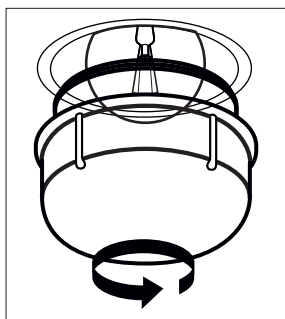

Figure 21
2. Remove the glass protection by turning it counterclockwise. (see figure 21) Using plastic gloves may help you if you have difficulty in rotating it.